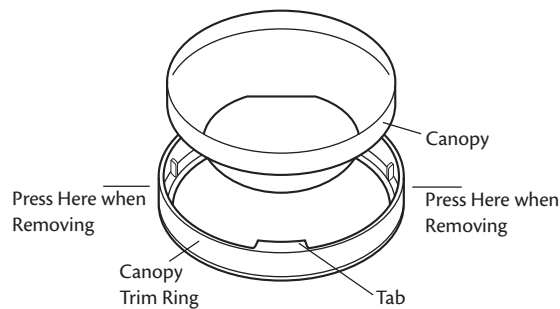

Figure 18 - Canopy trim ring
- To easily install the canopy trim ring, locate the two tabs on the canopy trim ring. See Figure 18.
- Take both hands and push the canopy trim ring up to the top of the canopy. See Figure 18.